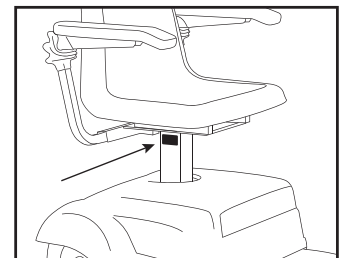

Figure 5B
- 2) Right side of lower seat post (toward top) (Figure 5B)